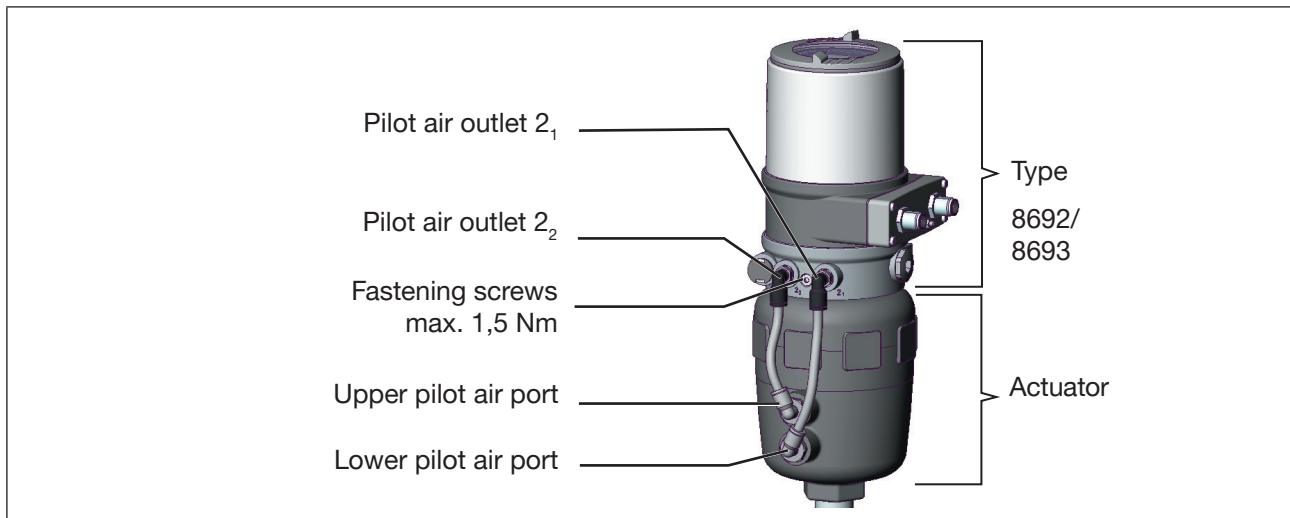

Figure 20: Installation of Type 8692/8693 on process valves belonging to series 26xx and 27xx
Ensure that the pneumatic connections of Type 8692, 8693 and those of the valve actuator are situated preferably vertically one above the other (see “Figure 20”).
- Attach Type 8692/8693 to the actuator using the two side fastening screws. In doing so, tighten the screws only hand-tight (max. tightening torque: 1.5 Nm (1.1 lbf ft)) (see “Figure 20”).